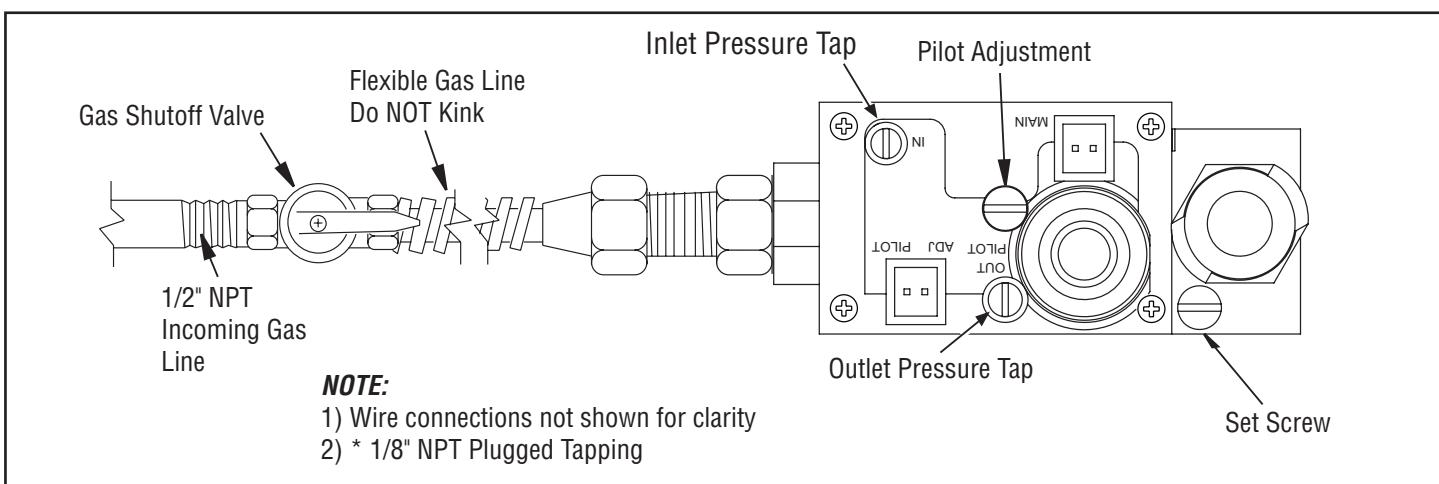

Figure 29 - Connecting Incoming Gas Line to Flex Gas Line
2. Attach flexible gas line from gas supply to control valve (*see Figure 29*).